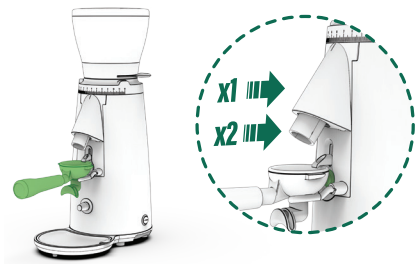

Fig. 8
Pressing one time the dose button (11) will deliver one freshly ground timed dose of coffee. A double pressing will deliver a freshly ground dose that is double the pre-set grind time (Fig. 8). Using the upper portafilter support (10), it is possible to run the timed grind cycle hands free.